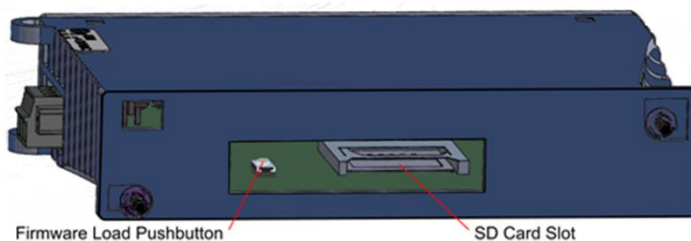
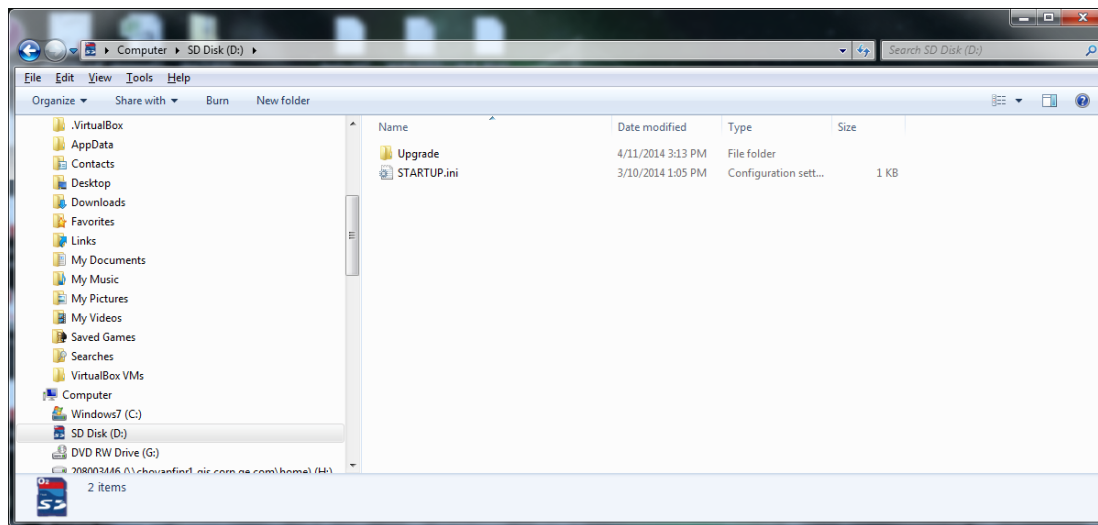

Figure 8: Rear View of GCG001
Figure 13: GCG001 Firmware Upgrade ZIP File UnZIPped to SD Card
The SD card slot is designed to support a Secure Digital (SD) non-volatile memory card in standard capacity format. This optional card has two distinct uses: (1) backup storage of some key PROFINET configuration data and (2) loading new GCG001 module firmware. Insert the SD Card into its slot at the rear of the GCG001 before mounting the module, as shown in Figure 8.
Refer to the rear view of the GCG001 module shown in Figure 8 (above). Whenever the GCG001 firmware needs to be updated, remove the SD card from its slot at the rear of the module, then install the SD Card in your PC and copy the new firmware to the SD Card. The ZIP file containing the GCG001 firmware upgrade may be found on the GE Intelligent Platforms Product Support web-site <http://www.ge-ip.com/support>. UnZIP as shown below (Figure 13).
After the SD card has received an update of the GCG001 firmware, install the SD card in its slot (see Figure 8). Note that the GCG001 must not be powered up while installing the SD Card. Next, while holding down the Firmware Load Pushbutton (see Figure 8), apply power to the module. This action causes the firmware to be copied from the SD Card to the GCG001 module itself. Continue holding the pushbutton until the OK LED turns amber, then release the pushbutton. When the OK LED turns green, the firmware has been loaded. Cycle power on the module and wait for the OK LED to turn green and steady. The module is then ready to be properly mounted (see section 1.5.1) .